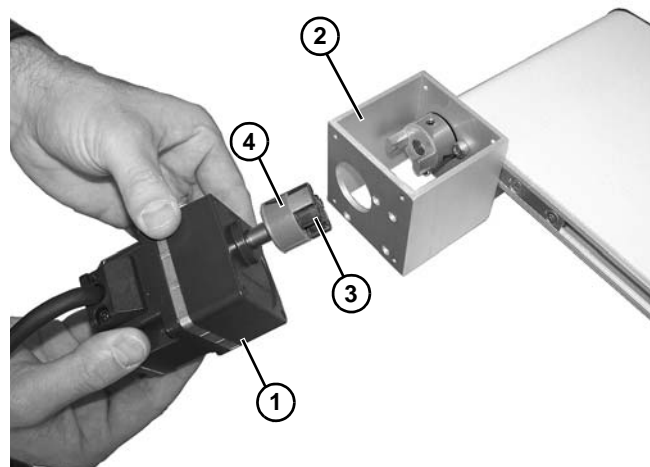

Figure 23
4. Remove gearmotor (Figure 23, item 1) from side mount bracket (Figure 23, item 2).
5. Remove 3-jaw spider (Figure 23, item 3) from spider coupler (Figure 23, item 4).
6. Loosen set screw and remove spider coupler (Figure 23, item 4) from motor shaft.